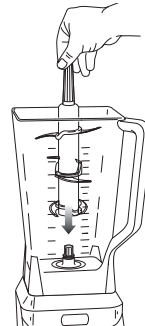

Fig. 4
- 5 Holding the 6-Blade Assembly by the top of the shaft, place it onto the drive gear inside the pitcher. Ensure that the attachment is seated properly and is standing upright. (Fig. 4)